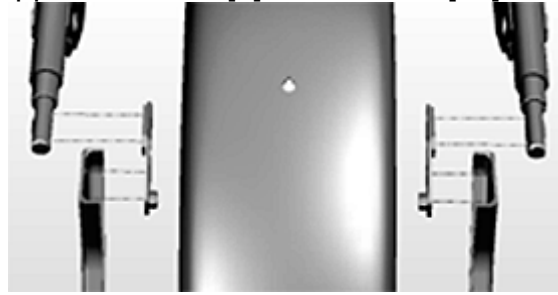

Figure 4
- Using 5/16" x 1-1/4" hex bolts [4] and 5/16" nylock nuts [5], attach the top two holes of the strut support brackets [8] to the struts [10] as shown in Figure 4.